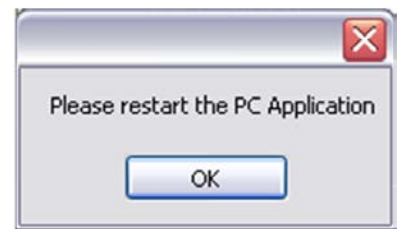

Figure 44. Restart Application to Update the Embedded Software Version
6. The software application then prompts you to restart the application (see Figure 44). Click **OK**.